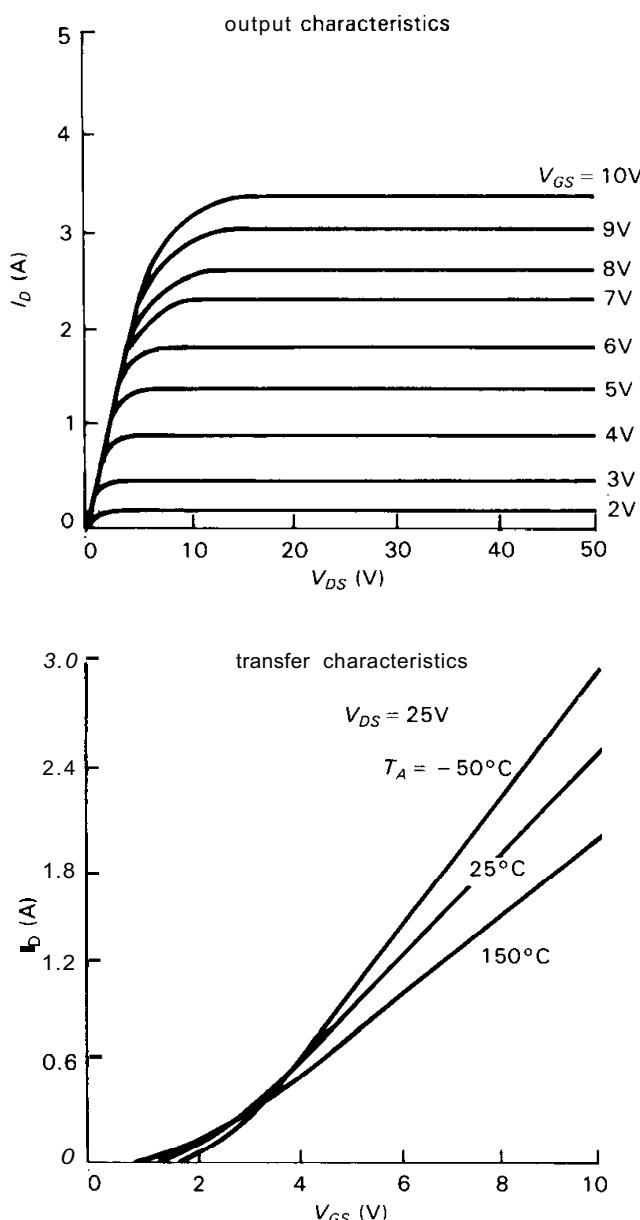

Figure 3.68. Drain characteristics of an n-channel low-threshold MOSFET (type TN0104).
1.5 volts (max)," which sounds fine until you read the fine print ("at  $I_D = 1\text{mA}$ "). It takes considerably more gate voltage than  $V_{GS(\text{th})}$  to turn the MOSFET on fully (Fig. 3.68). However, the circuit will probably work OK, because (a) a HIGH TTL output is rarely less than +3 volts, and typically more like +3.5 volts, and (b) the TN01 further specifies " $R_{ON}(\text{typ}) = 5\Omega$  at  $V_{GS} = 3\text{V}$ ."